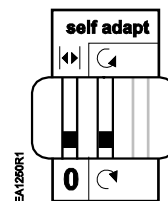

Figure 2.
2. The factory setting is clockwise (middle switch). See Figure 2.